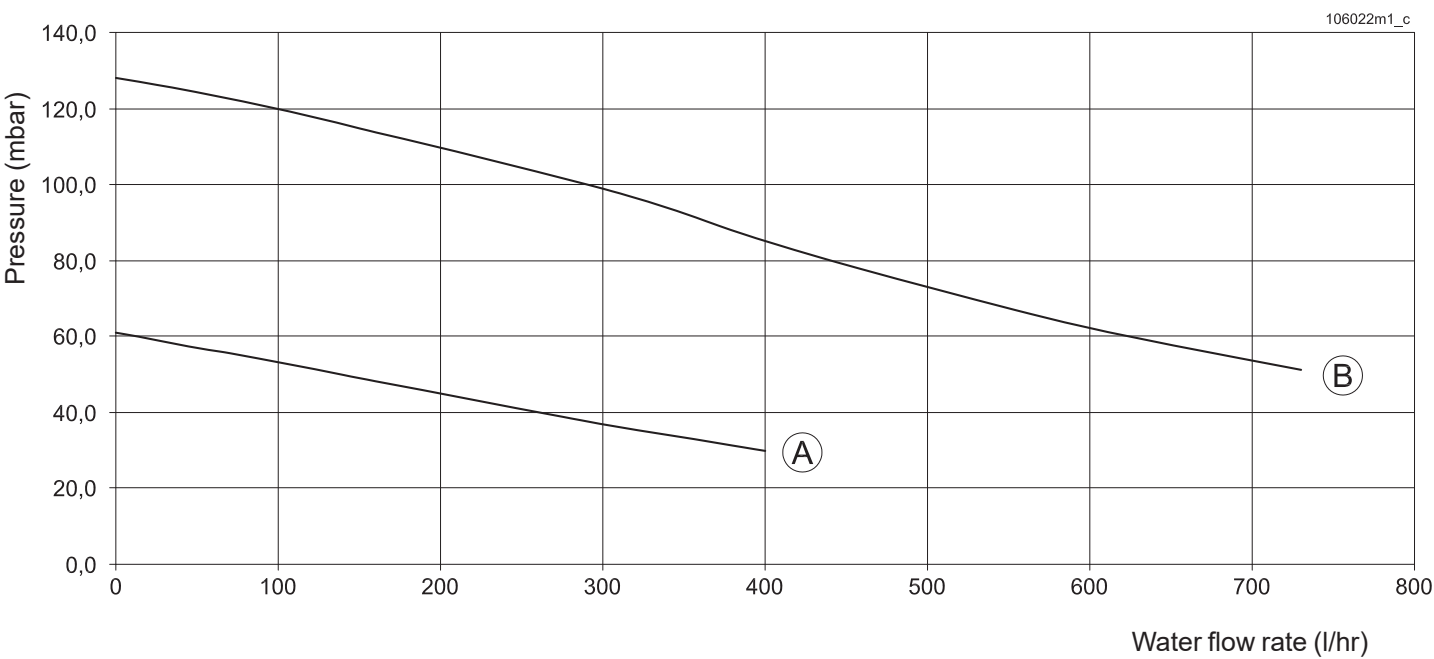

Figure 5-11 - Residual head of recirculation circuit with internal pump curve
- 2.- Respect the pressure output curve shown in the form of a graph in the Figure (see Figure 5-11);
Key for Figure 5-11